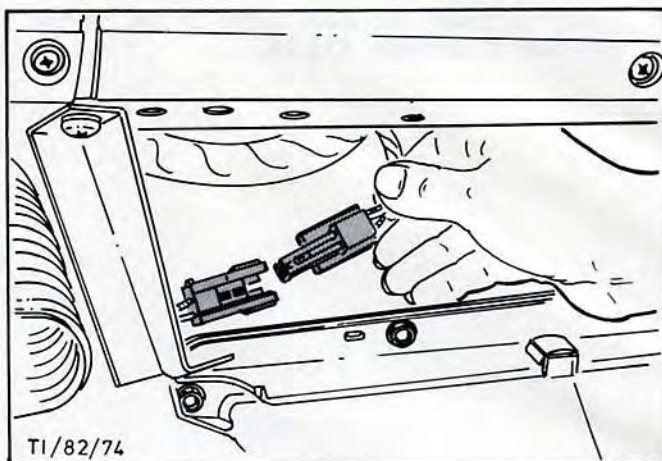

Fig.28. Disconnect blower motor plug (bezel of heater control unit removed for clarity).
3. Disconnect blower motor plug, Fig.28.